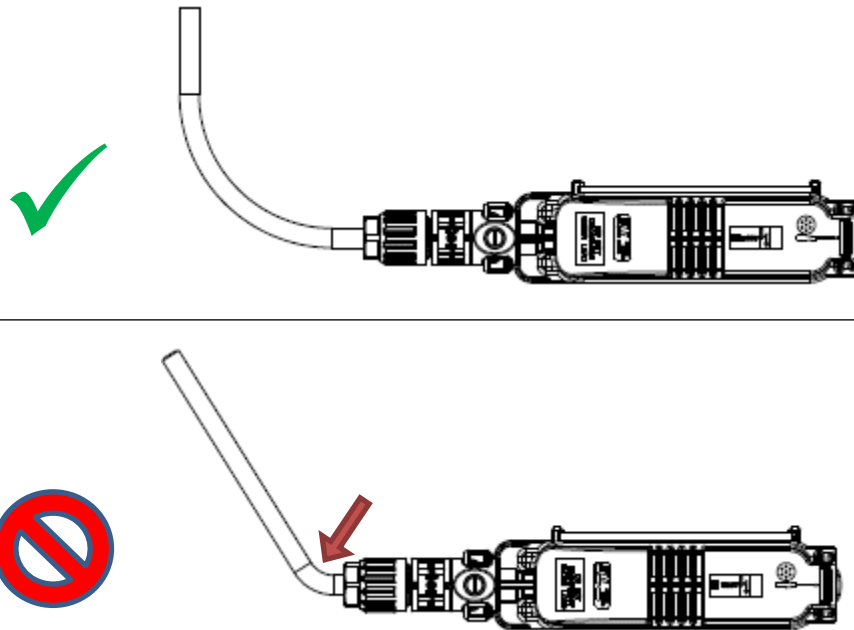

Figure 10
3.8. Cable Routing and Strain Relief (Figure 10)